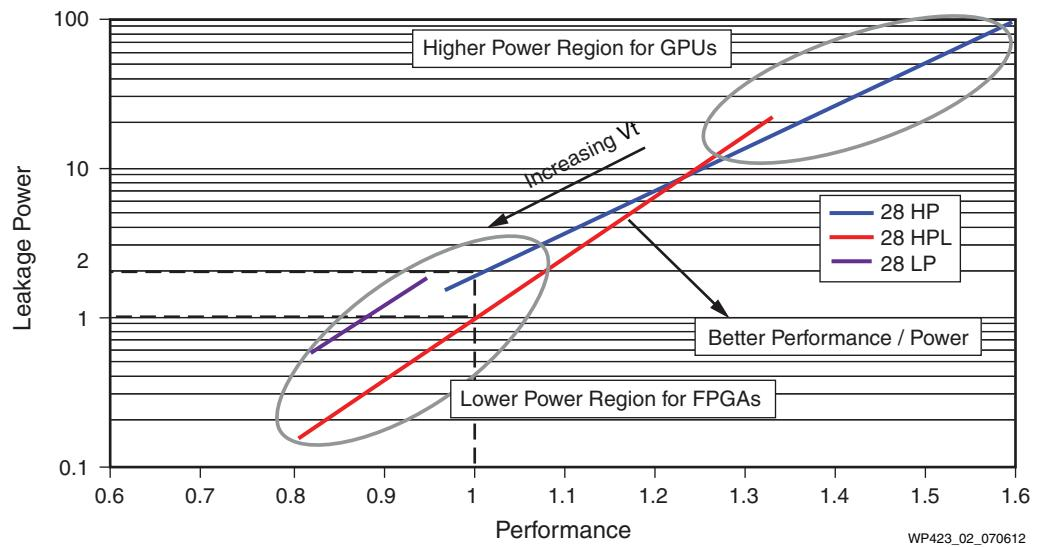

Figure 2: HPL Process Enables Low Power and High Performance in the Artix-7 FPGA
Careful comparisons to TSMC's low power (LP) and high power (HP) processes indicate that the HPL process achieves the lowest power and highest performance when considering the operating range of an FPGA. In principle, an HP process sees performance gains over an HPL process but at levels of static power that are untenable for programmable devices. Conversely, at low leakage points, 28 HPL offers a better performance-power metric than 28 LP, as shown in Figure 2. The ability to extend into a lower leakage region enables a low-power Artix-7 device, for example, to be substituted without switching to a different process.